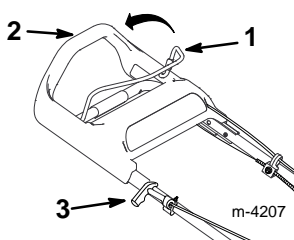

Figure 10
3. Hold the blade control bail against the upper handle (Fig. 10).
4. Pull the starter handle lightly until you feel resistance, then pull it sharply (Fig. 10). Allow the rope to return to the handle slowly.